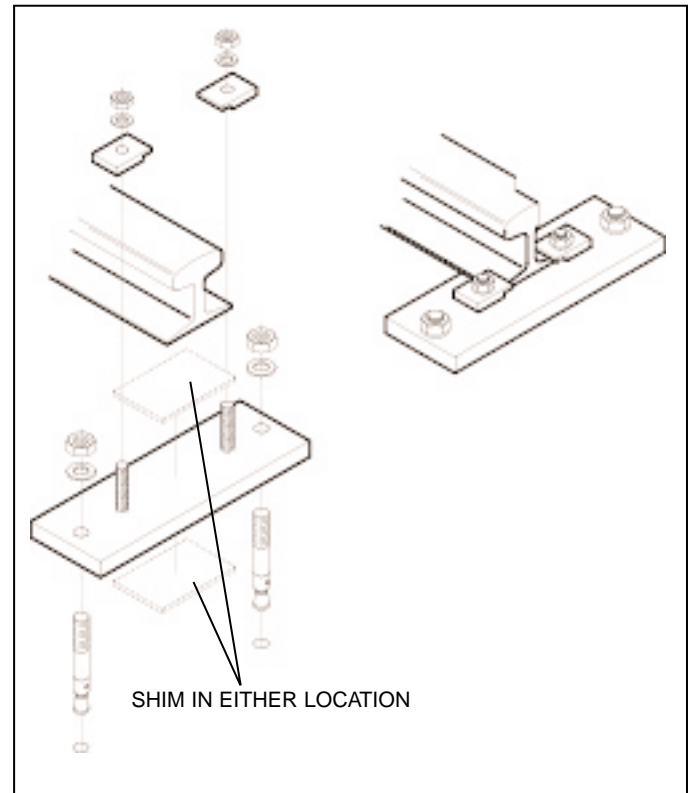
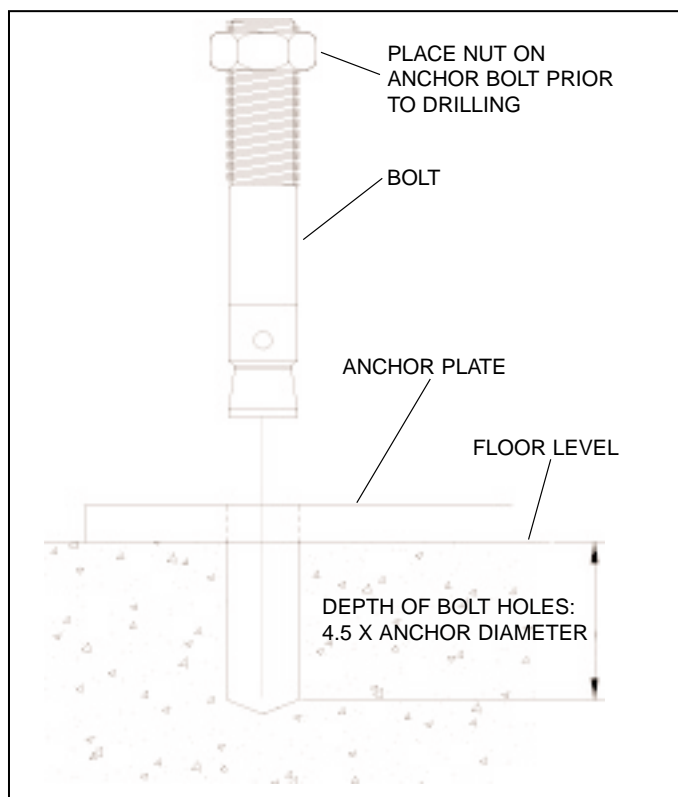
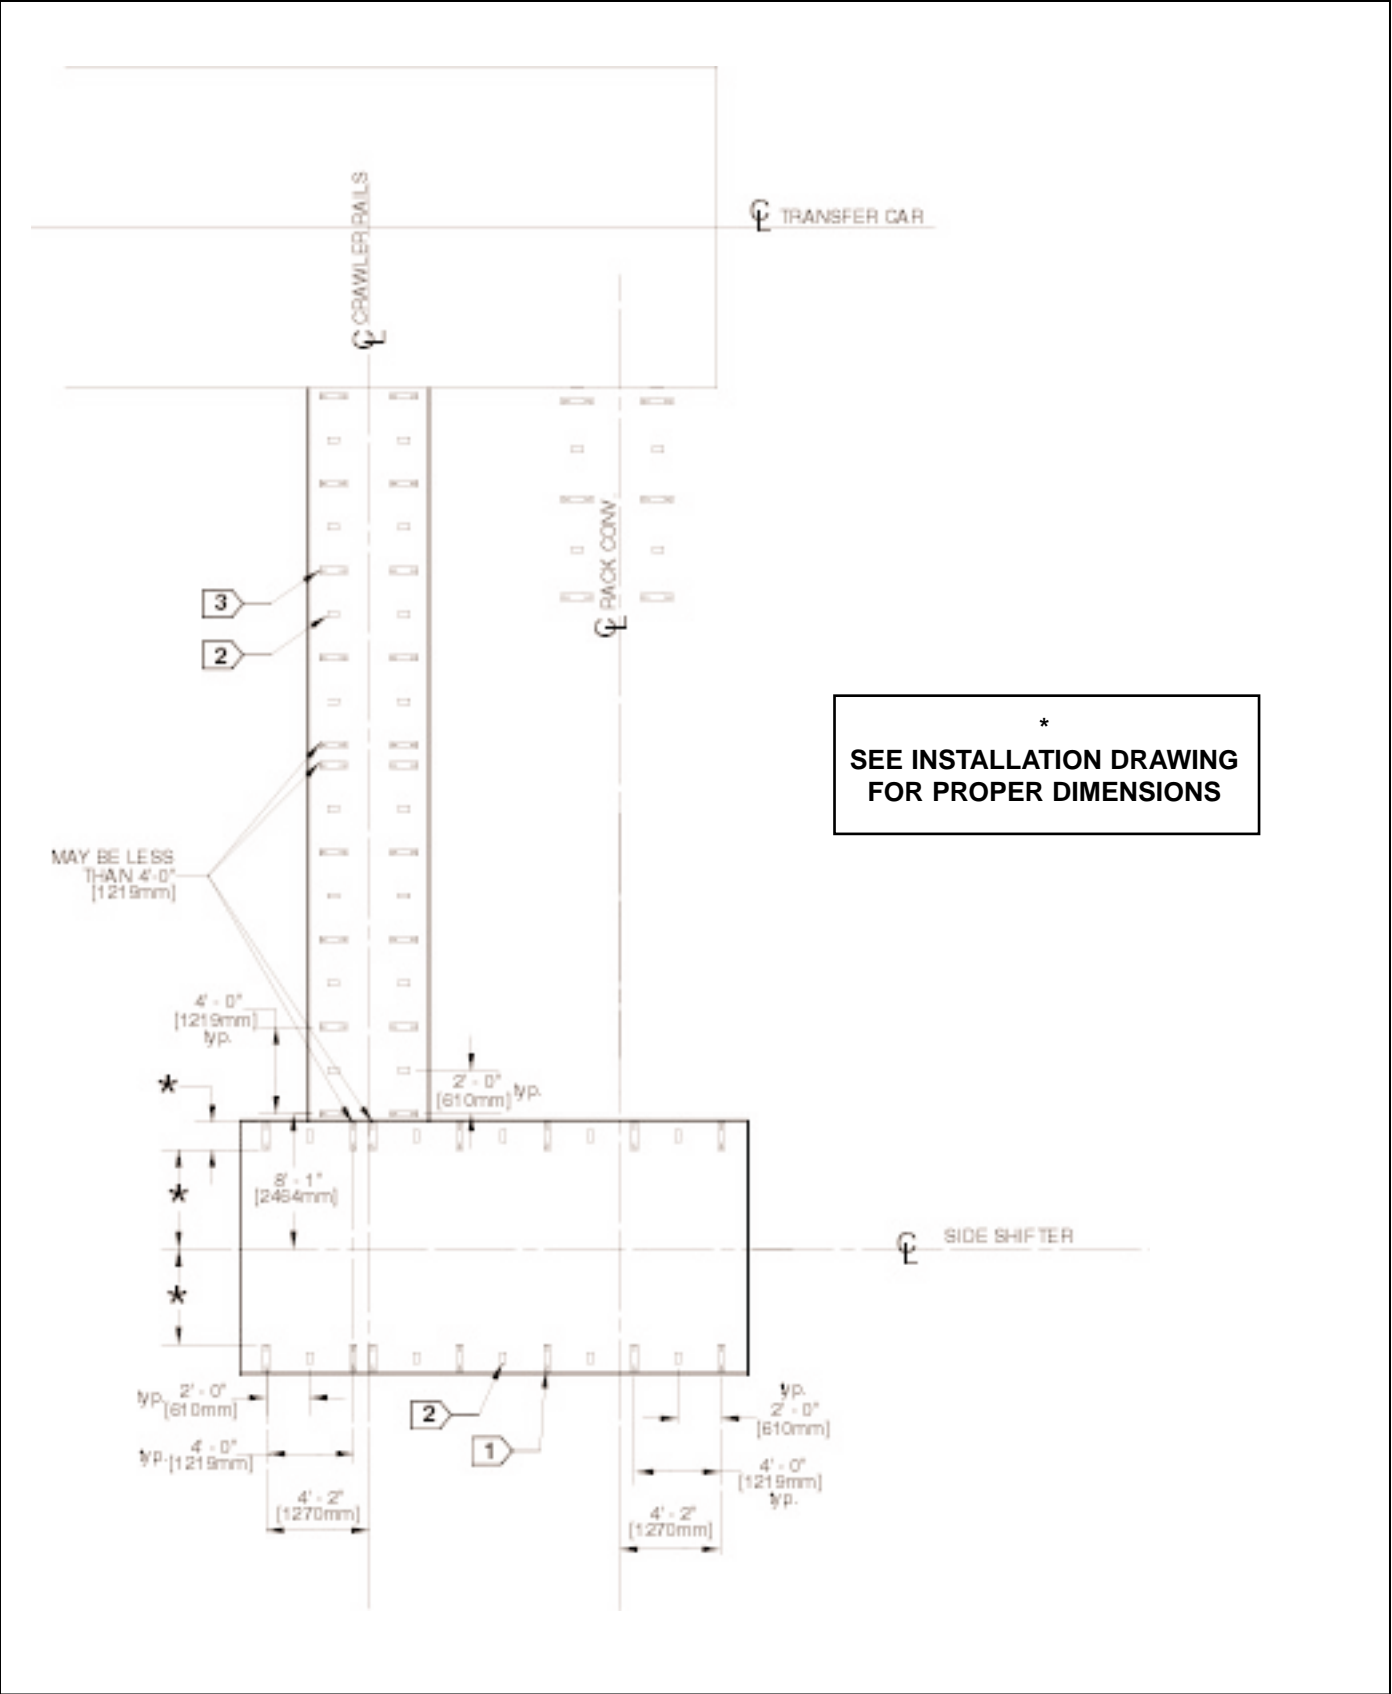

Figure 3.1 RAIL ANCHOR WITH SHIMS
Figure 3.2 ANCHOR BOLT
Figure 3.5 SIDE SHIFTER AND CRAWLER ANCHOR PLATES AND SHIMS INSTALLATION.
The Side Shifter and Crawler rails should be installed according to specifications presented in figures 3.1 to 3.9 along with installation drawing sheets 3, 4 and 9.
Rail anchors (item 1 in figure 3.5) should be secured with 3/4" X 4-3/4" [19mm X 121mm] L. anchor stud, 3/4" [19mm] lockwasher and 3/4" [19mm] hex. nut. Rail anchors should be installed at 4 foot [1219mm] intervals along all rail paths. Figure 3.1 shows the rail anchor assembly and figure 3.2 shows the depth and placement using the anchor plate as a template, for drilling anchor bolt holes. Mark and drill anchor bolt holes with care and precision. In order for rail gauge to be accurate, the holes for rail anchors must be located within a tolerance of $\pm 1/16$ inches [2mm]. A spacer, secured with 3/4" X 7" [19mm X 121mm] L. anchor studs should be added on item 3 in figure 3.5.
Spacer shims (2" X 5") (item 2 in figure 3.5) should be placed halfway between each anchor plate to support rails. Tackweld shims to rails after rails have been located. Optional shims may be used to obtain the correct elevation of the rails but are not required for correct support. Shim thickness may vary according to floor elevations.